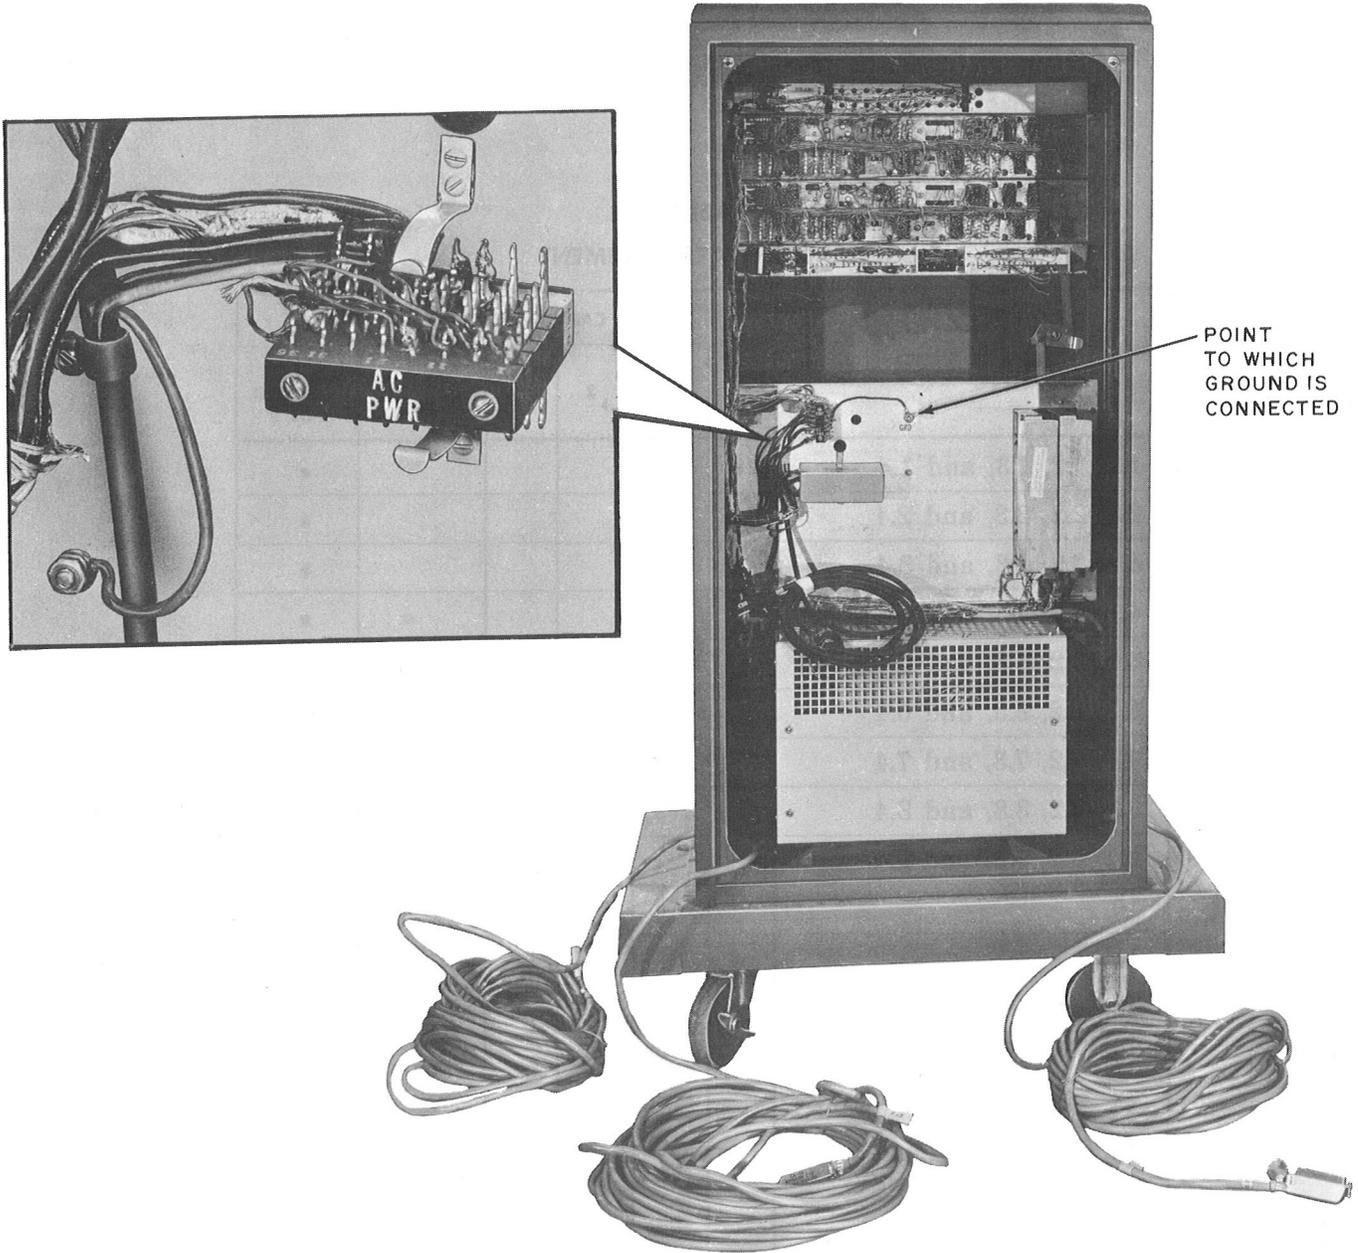

Fig. 13—Cabinet No. 4 Showing Power and Ground Connections
**4.04** Using 10-gauge copper wire, connect an approved local ground to the ground lug provided on the power panel in cabinet 4 (Fig. 13).
**4.05** A cover should be made for the power connecting block or a Hazardous Voltage sticker should be applied, as a hazard is constituted to anyone working on the connecting block side of the power plant (Fig. 13).